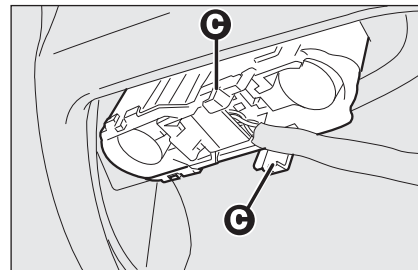

fig. 34
- lower the lid and remove the bulb holder unit by pressing the retaining tabs **C-fig. 34**;
- refit the bulb holder unit securing it properly using the retaining tabs **C-fig. 34**;